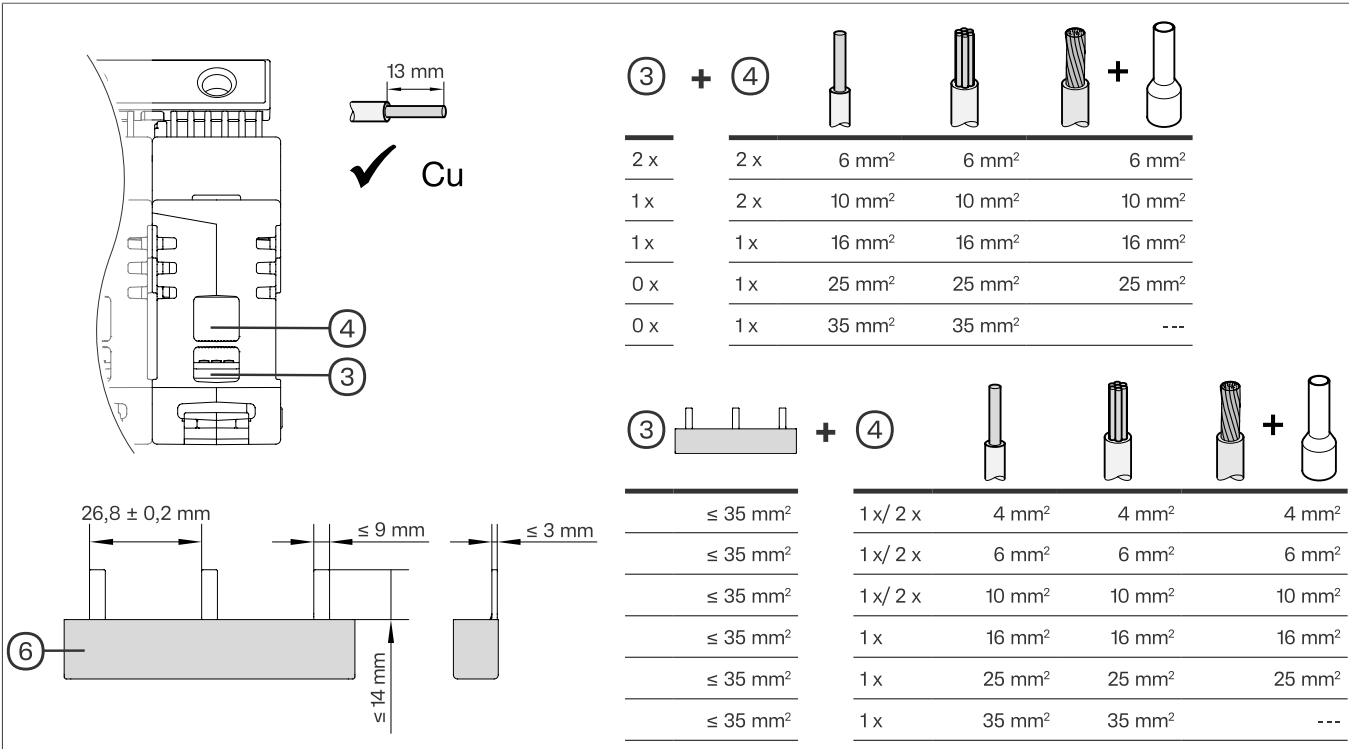

Fig. 7: Double input terminal
- ③ Rear terminal
- ④ Front terminal
- ⑥ Busbar ^[1]
• If several devices are mounted side by side on a DIN rail, attach a suitable busbar (⑥) (≤ 35 mm², see Fig. 7: Double input terminal) to the rear terminals (③) to loop through the supply cables.
- Connect cables with a suitable cross-section (Fig. 7: Double input terminal) from device to device at the rear input terminals (3).
- Route the supply cables to the front input terminals (4). Their cross-section must correspond to that of the rear input terminals (3).